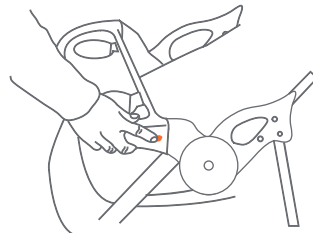

Fig. 11a
- 11)** • To access the child seat: press inward on left side tray release button and rotate upward on the tray (Fig. 11a).